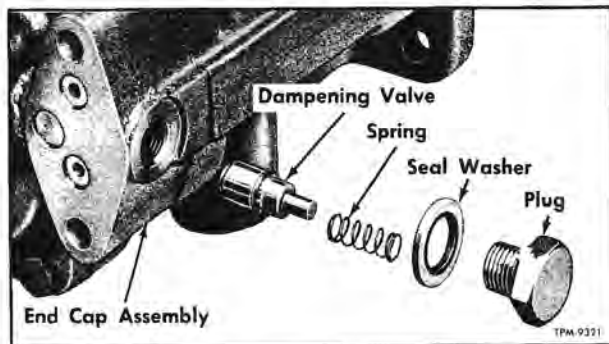

Figure 41—Pump Dampening Valve Components
2. Using a 3/4" wrench, remove dampening valve components (fig. 41) from pump end cap assembly. NOTE: Use needle-nose pliers to remove valve (20) from bore.
14. Referring to figure 41, reassemble dampening valve components into bore of end cap. Tighten valve plug firmly.